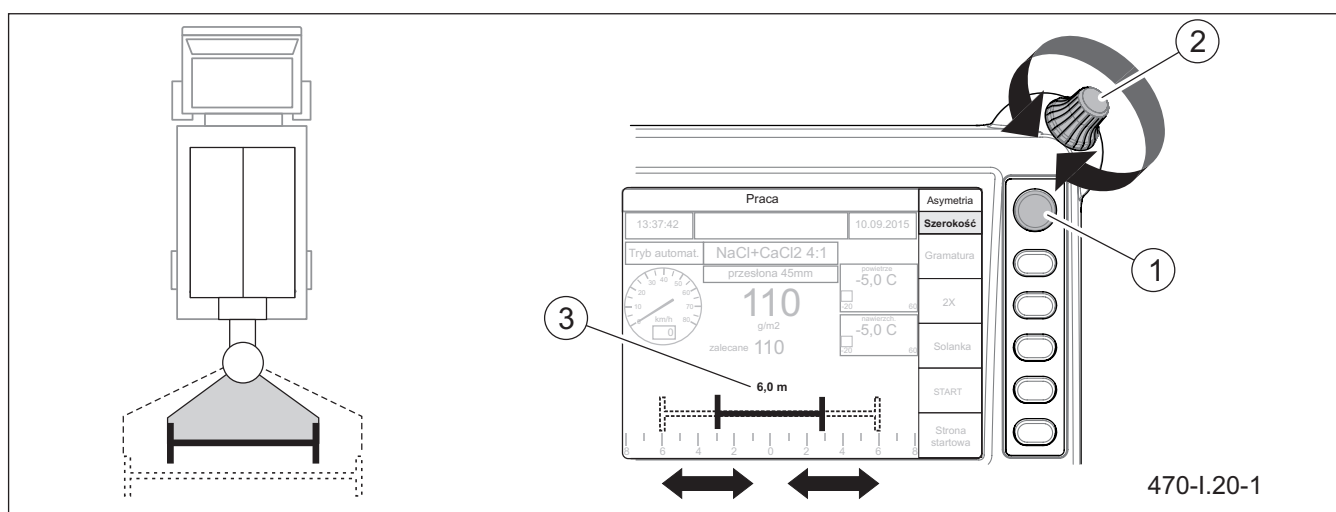
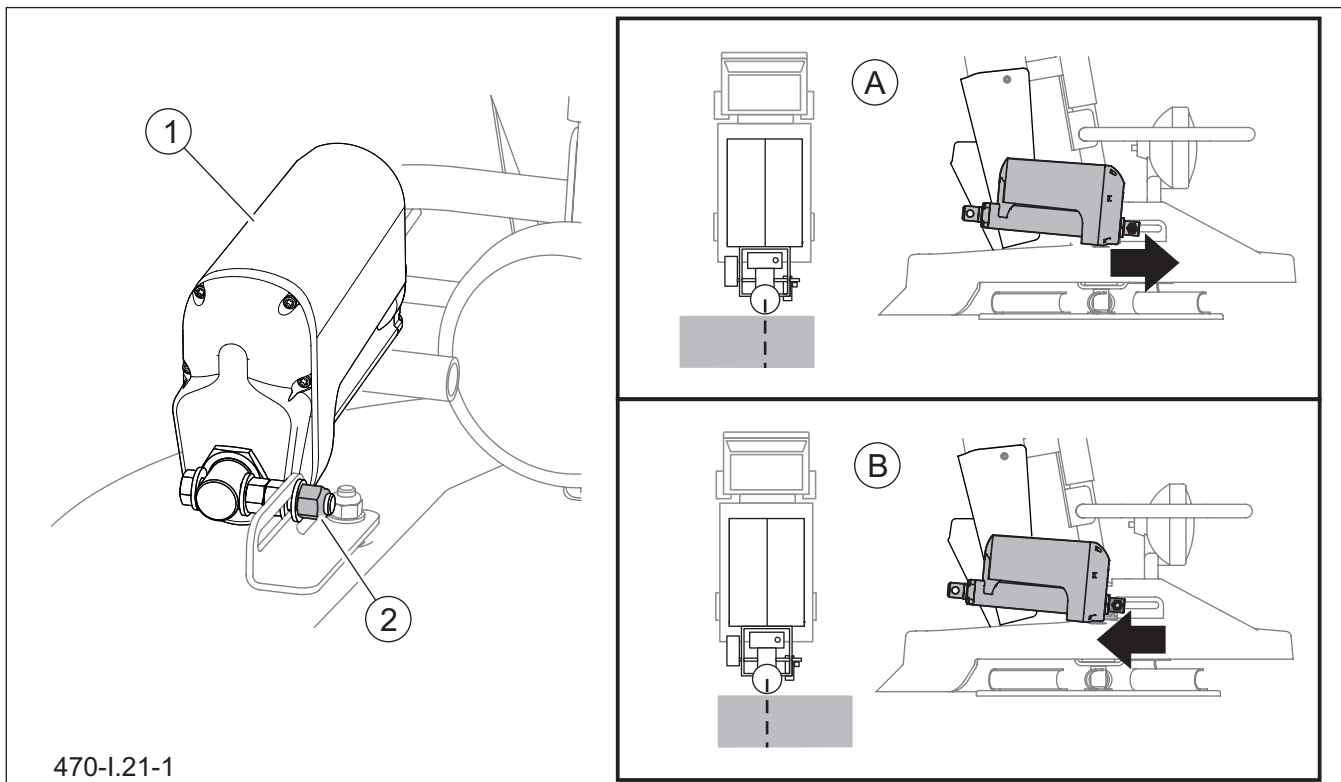

Figure 5.21 Changing asymmetry of spreading
Figure 5.22 Adjustment of spreading mechanism
- highlight "Width" function by means of push-button (1),
- turn knob (2) to set a required width (3) from 2 m ÷ 12 m.
To change asymmetry of spreading, highlight "Asymmetry" field on working page "Operation" by means of push-button (1). Turn knob (2) to move current spreading width to the right or to the left (Figure 5.21). For example, in the figure 5.22, for spreading width of 6 m, spreading asymmetry is shifted to the right.
In order to adjust the spreading mechanism (Figure 5.22), set symmetric 4 meter-wide spreading zone on the control panel. Activate spreading and drive a short distance at a constant speed. Stop the vehicle and check effect of spreading. If spreading to the right side and to the left side is not the same, adjust spreading direction (Figure 5.22) adjusting cylinder (1) as follows:
- Loosen nut (2).
- Move cylinder (1) forwards if spreading zone is excessively shifted to the left (A).
- Move cylinder (1) backwards if spreading zone is excessively shifted to the right (B).
- Tighten nut (2), conduct test spreading, if necessary, repeat the adjustment.